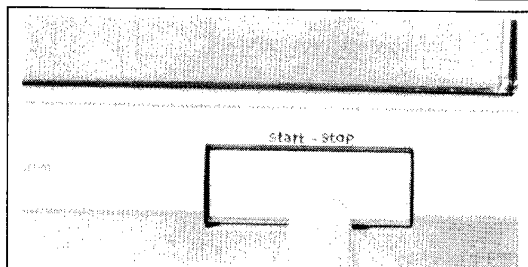

Fig. 5
3. Push the start/stop button. (See Fig. 5.)